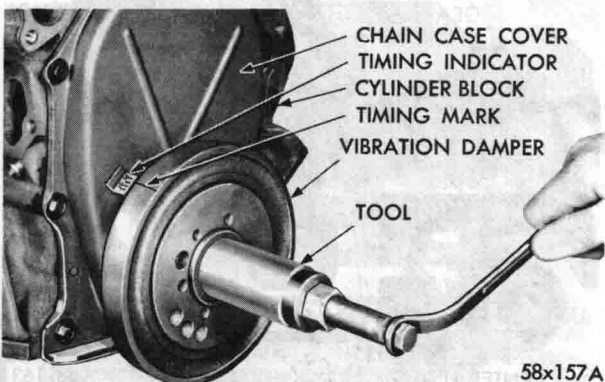

Fig. 35—Installing Vibration Damper Assembly
- (1) Install the damper hub key in slot in crankshaft, and slide hub on crankshaft.
- (2) Place the installing tool, part of Puller set Tool C-3033 in position and press damper hub on the crankshaft (Fig. 35).
- (3) Slide the pulley over the shaft and attach with bolts and lockwashers.
- (4) Tighten the bolts to 15 foot-pounds torque.
- (5) Install damper hub retainer washer and bolts. Tighten to 135 foot-pounds torque.